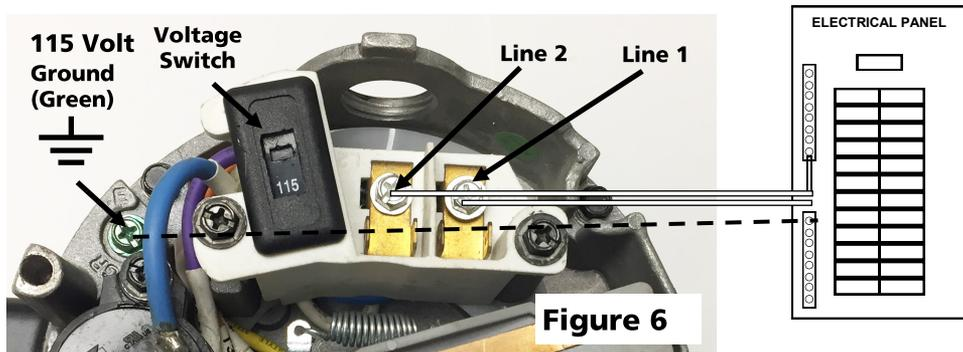

Figure 6
2. Connect one hot wire (usually black or red) from the power source to one of the line terminals on the pump. It doesn't matter which one. Follow wiring diagram in Figure 6.